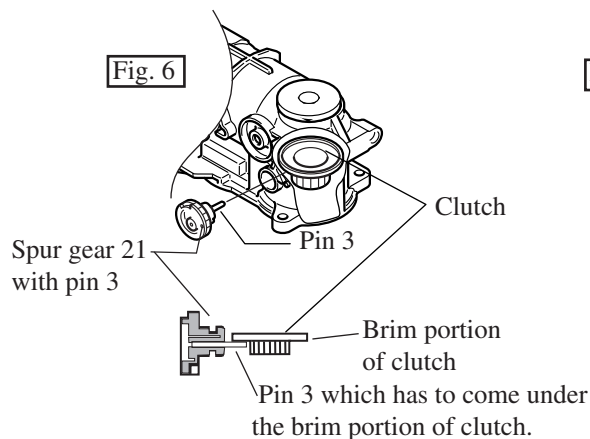

Fig. 6
(1) Assemble spur gear 21 so that its pin 3 comes under the brim portion of clutch. See Fig. 6.